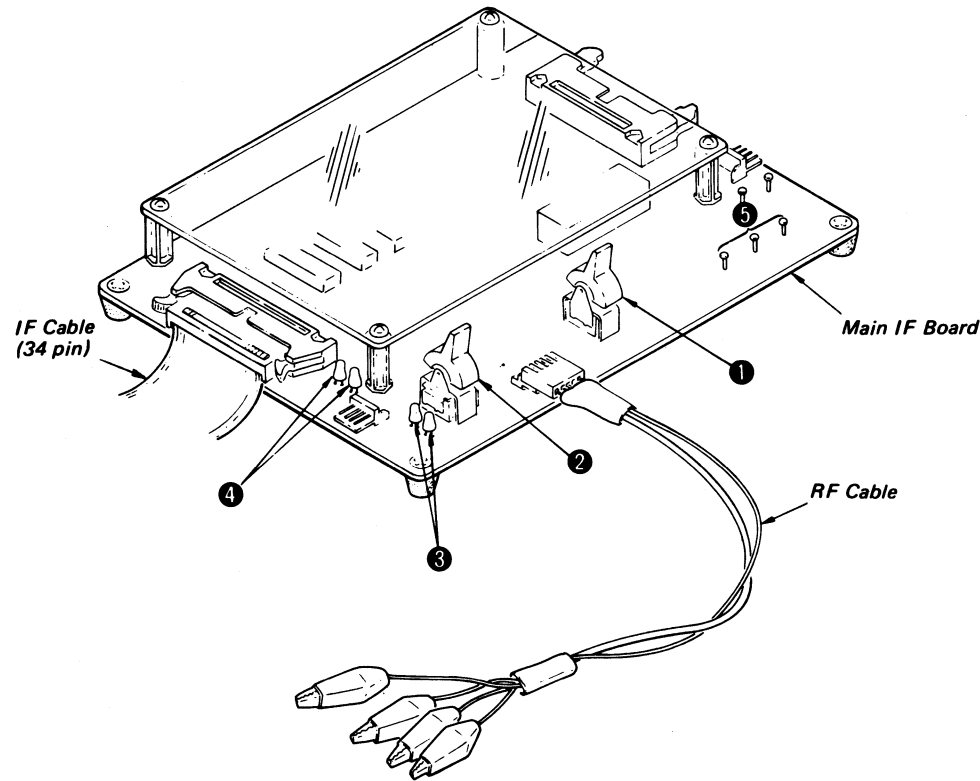

Fig. 2-4 IF Board 52/53 Configuration
(1) IF Board 52/53 configuration (Refer to Fig. 2-4)
(2) IF Board 52/53 function